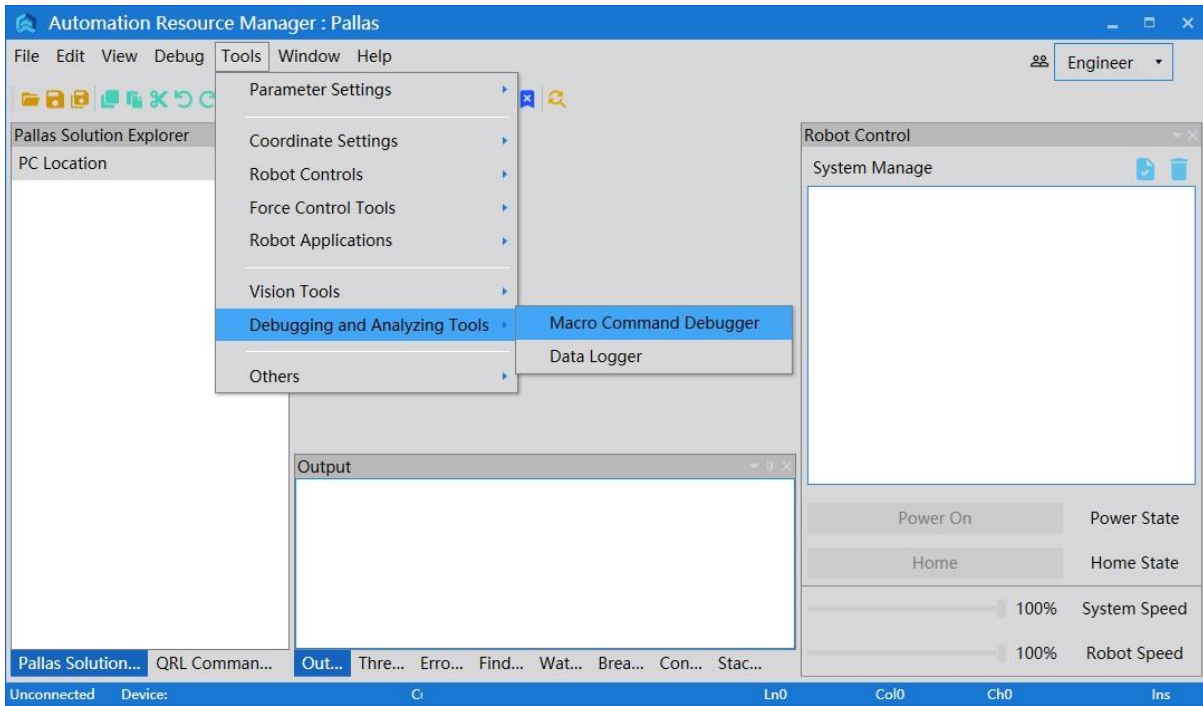

Figure 6-6 ARM interface
Step 2 On the interface of ARM in Pallas mode, click <Tools> on the menu bar and select <Macro Command Debugger >in< Debugging and Analyzing Tools >, as shown in Figure 6-6.